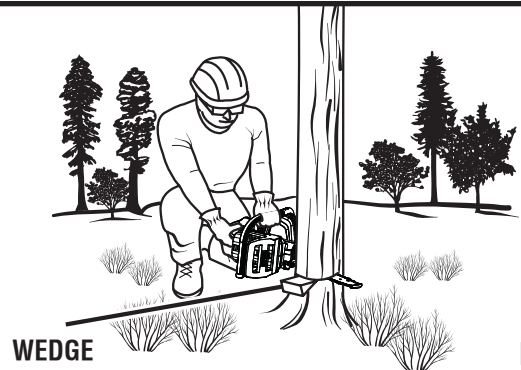

Fig. 17
- On large diameter trees, stop the back cut before it is deep enough for the tree to either fall or settle back on the stump. Then insert soft wooden or plastic wedges into the cut so they do not touch the chain. The wedges can be driven in, little by little, to help jack the tree over. See Figure 17.